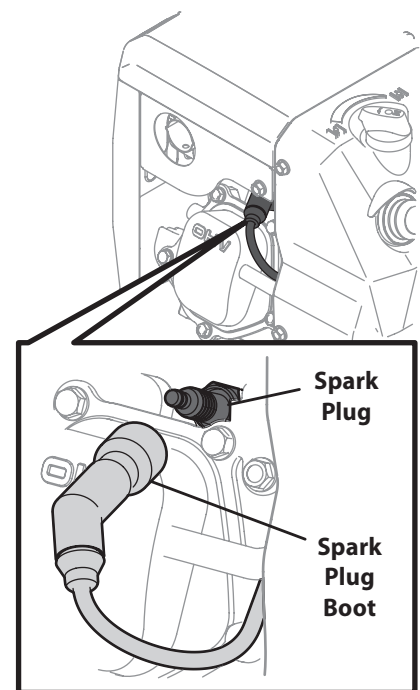

Figure 6-2
1. Carefully disconnect the spark plug wire and keep it away from the spark plug. Refer to "Figure 6-2" for spark plug location.
1. Remove the spark plug boot. See "Figure 6-2".